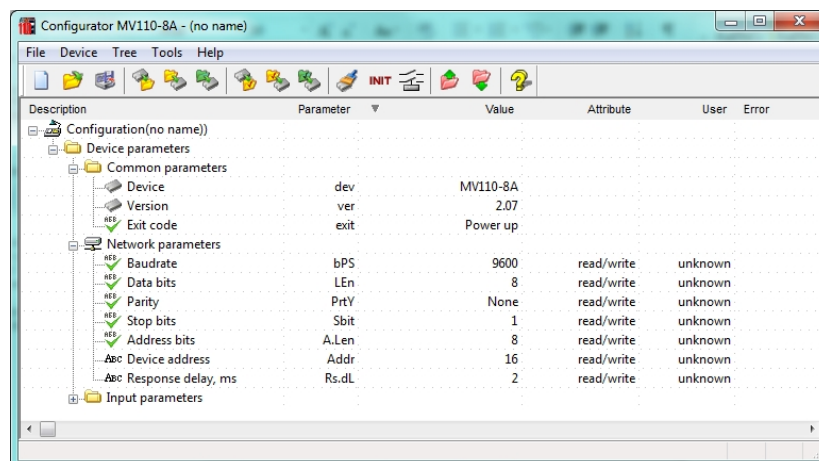

Fig. 7.2 Main window of M110 Configurator
- the main window of the configurator opens. Now the saved network parameters of the module can be read out (see Fig. 7.2)